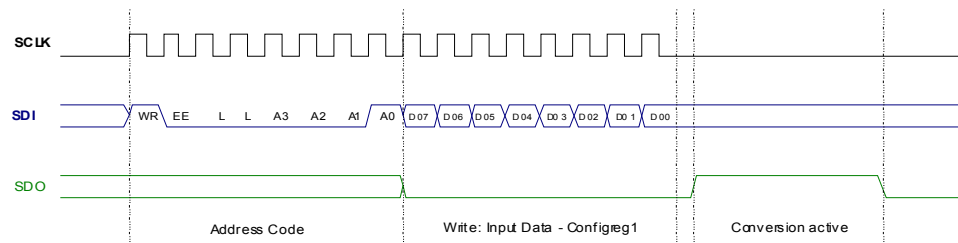

**Figure 5: Read EEPROM Sequence (burst read of complete EEPROM).**
- In this scenario, the content of the complete EEPROM ( $40_H$ ) is readout. Here, the EEPROM entries are transmitted to the microcontroller via **SDO**. The ordering of the data is as follows: bit7-...-bit0 (EEPROM0) – bit7-...-bit0 (EEPROM1) - ... - bit7-...-bit0 (EEPROM15), i.e. 128 bits (cp. Figure 5). The transmission of the EEPROM entries starts with the subsequent clock (**SCLK**) after the  $40_H$  Address Code has been sent. The readout will take ca.:  $128 \cdot 1/32kHz = 4ms$ .